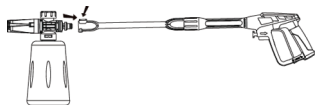

Fig 8
4. Attach detergent applicator to gun. (See Figure 8)